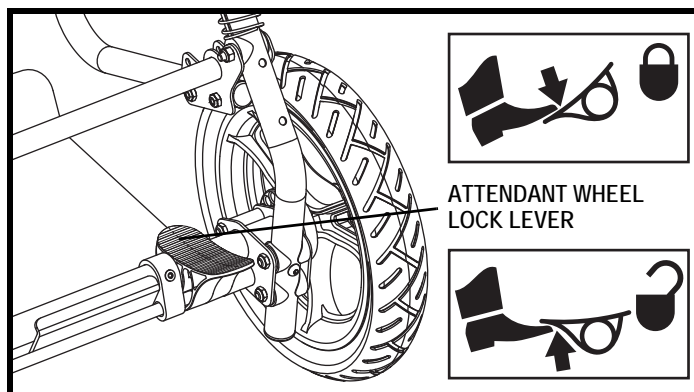

Figure 7. Kids FAST Attendant Wheel Lock
1. Locate the attendant wheel lock lever on the right of the rear axle. **See figure 7.**